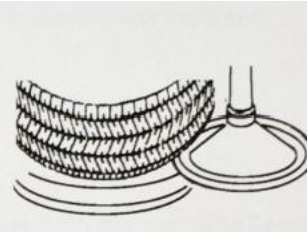

Fig 15
-Demount the other side of tyre with tyre demounting plate (Fig 15). Insert crowbar and put the tyre onto the M/D head, then press turntable control pedal until the other side is separated.